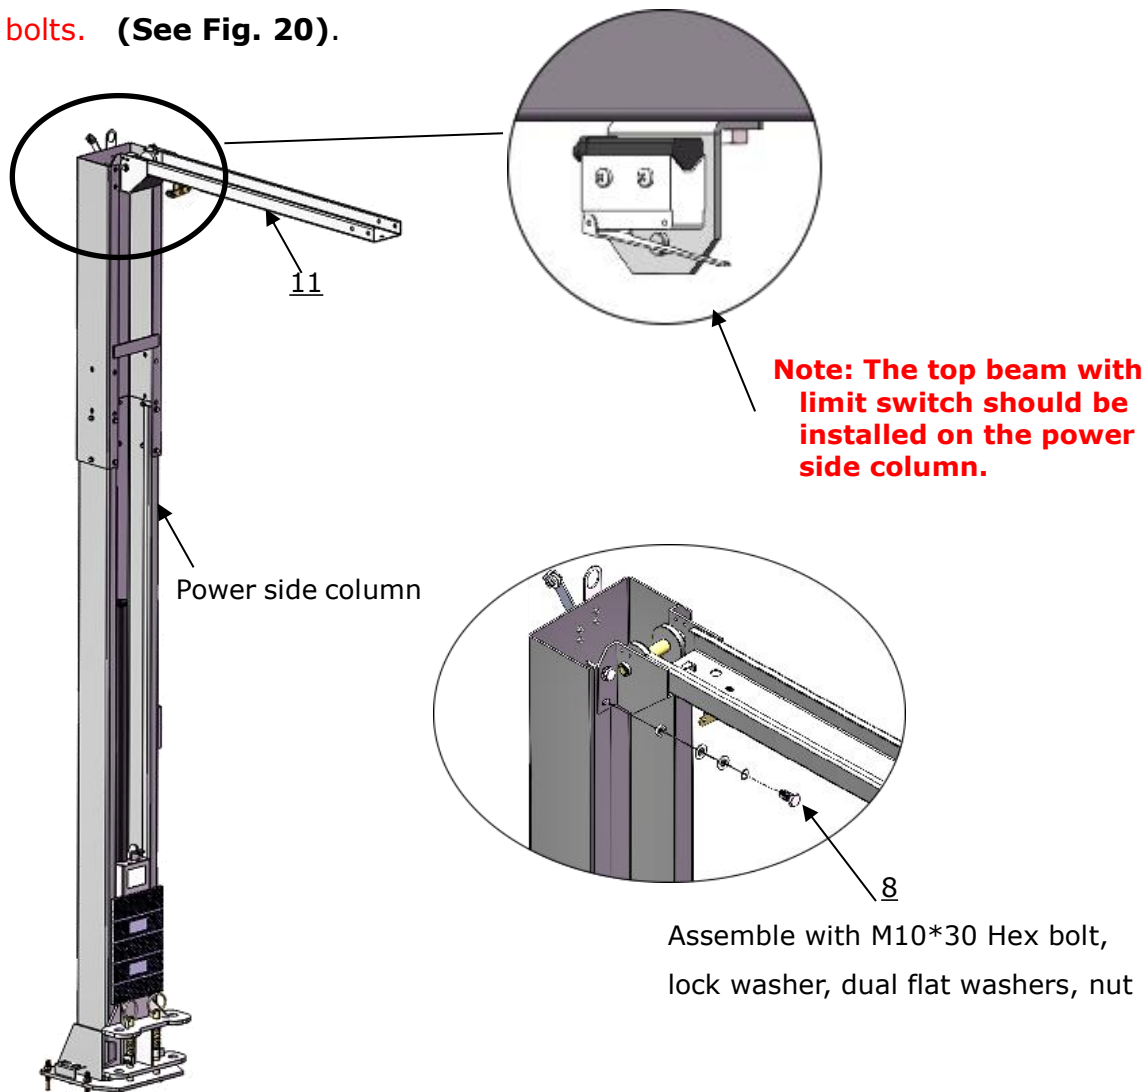

Fig. 20
1. Hang the hook of top beam on the outer column, then align the holes and install the bolts. (See Fig. 20).